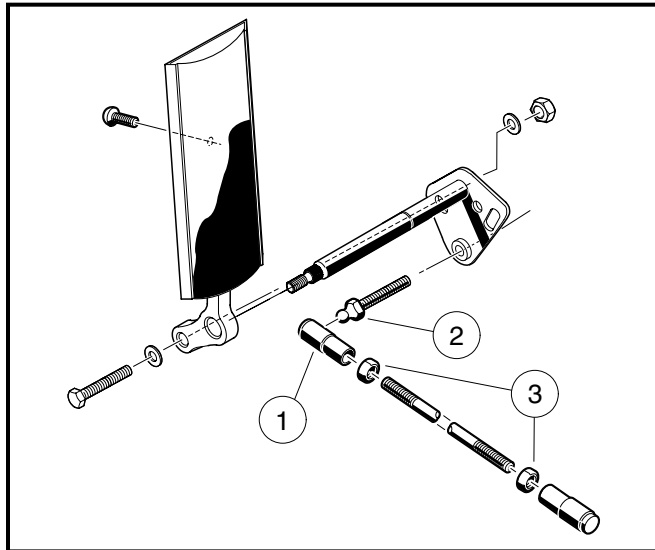
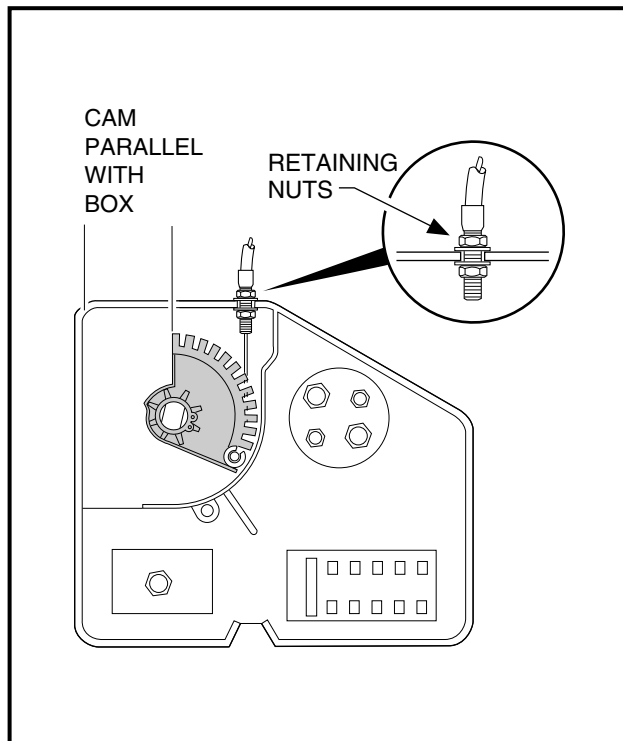
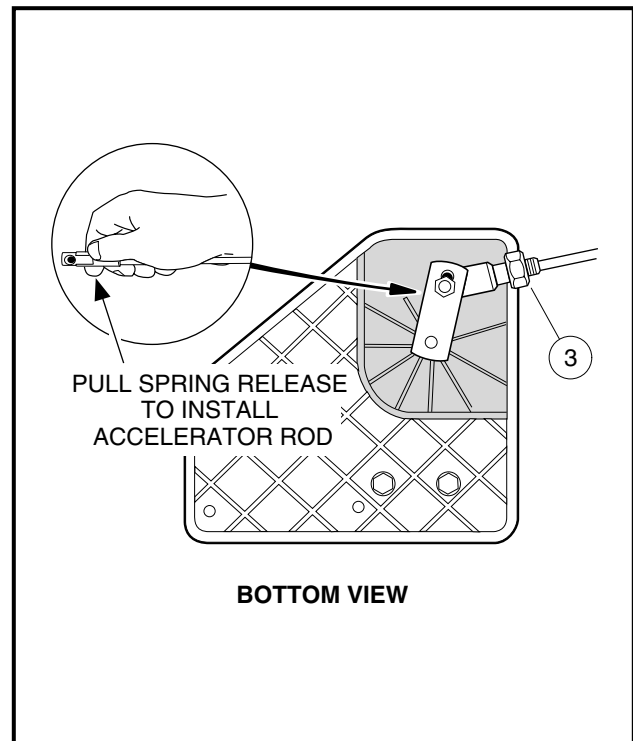

Figure 14-9 Accelerator Rod
Figure 14-10 Cam Position
Figure 14-11 Accelerator Rod
2. Remove the accelerator rod by disconnecting the ball joint (1) from the ball stud (2) on the accelerator pedal (**Figure 14-9, Page 14-11**) and from the bell crank at the electrical box (**Figure 14-11, Page 14-13**).
3. Install the ball joint on the ball stud at the accelerator pedal (**Figure 14-9, Page 14-11**).
6. Adjust length of accelerator rod. With the ball joint jam nuts (3) loose (**Figure 14-9, Page 14-11**), adjust the length of the rod so the indicated cam edge is parallel with the edge of the electrical component box as shown (**Figure 14-10, Page 14-13**). **See following CAUTION.**
7. Install the accelerator rod on the bell crank ball joint on the electrical component box (**Figure 14-11, Page 14-13**). **See following CAUTION and NOTE.**
4. Remove the electrical component box cover and loosen the cable housing retaining nuts (**Figure 14-10, Page 14-13**).
5. Disconnect cable (1) from cam (17) (**Figure 14-12, Page 14-15**) in the electrical component box (**Figure 14-10, Page 14-13**).
2. Insert the cable housing into the mounting slot in the wall of the electrical box, with approximately the same number of threads visible between the jam nuts as are visible from the nut inside the box to the end of the cable housing (**Figure 14-10, Page 14-13**). Tighten the nuts finger tight.
5. To reduce RPM, loosen the accelerator cable retaining nut on the outside of the electrical box wall and tighten the retaining nut on the inside of the wall until the specified RPM is reached (**Figure 14-10, Page 14-13**). To increase RPM, loosen the cable retaining nut inside the electrical box and tighten the nut outside the box until the desired RPM is reached.